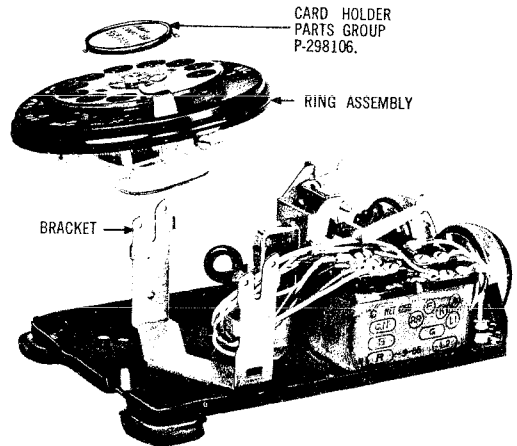

Fig. 30 — Dial Assembly
- (g) **Dial Assembly** (Fig. 30): The dial is attached to the dial mounting bracket with two or three screws. The current-type dial bracket assembly does not have a front mounting attachment.